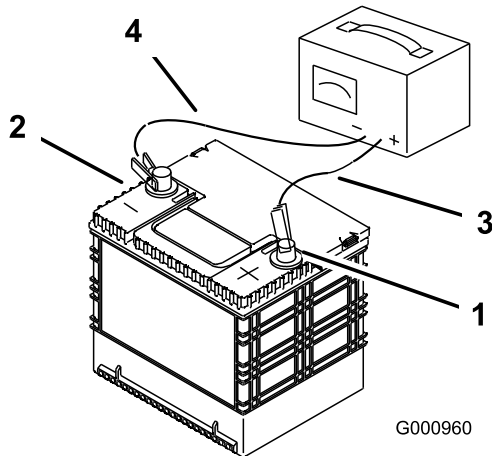

Figure 55
2. When the battery is fully charged, unplug the charger from the electrical outlet, then disconnect the charger leads from the battery posts (Figure 55).